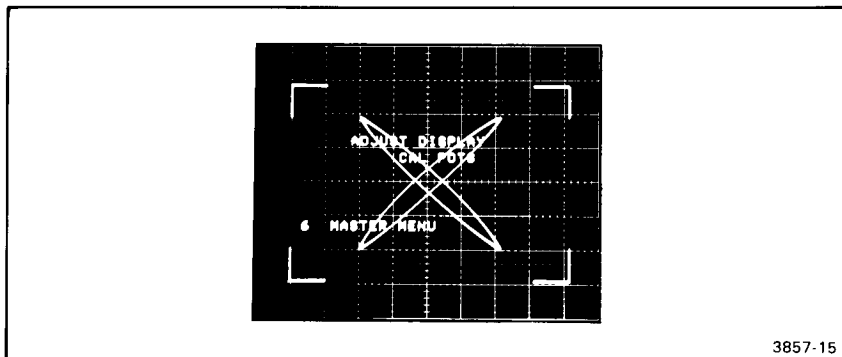

Figure 2-7. Adjust HORIZ CTR.
- Step 2** Adjust the HORIZ CTR (horizontal center) control to bring the left edge of the DISPLAY CAL PATTERN in alignment with graticule line 1 of the display as shown in Figure 2-7 (left-most graticule line is 0).